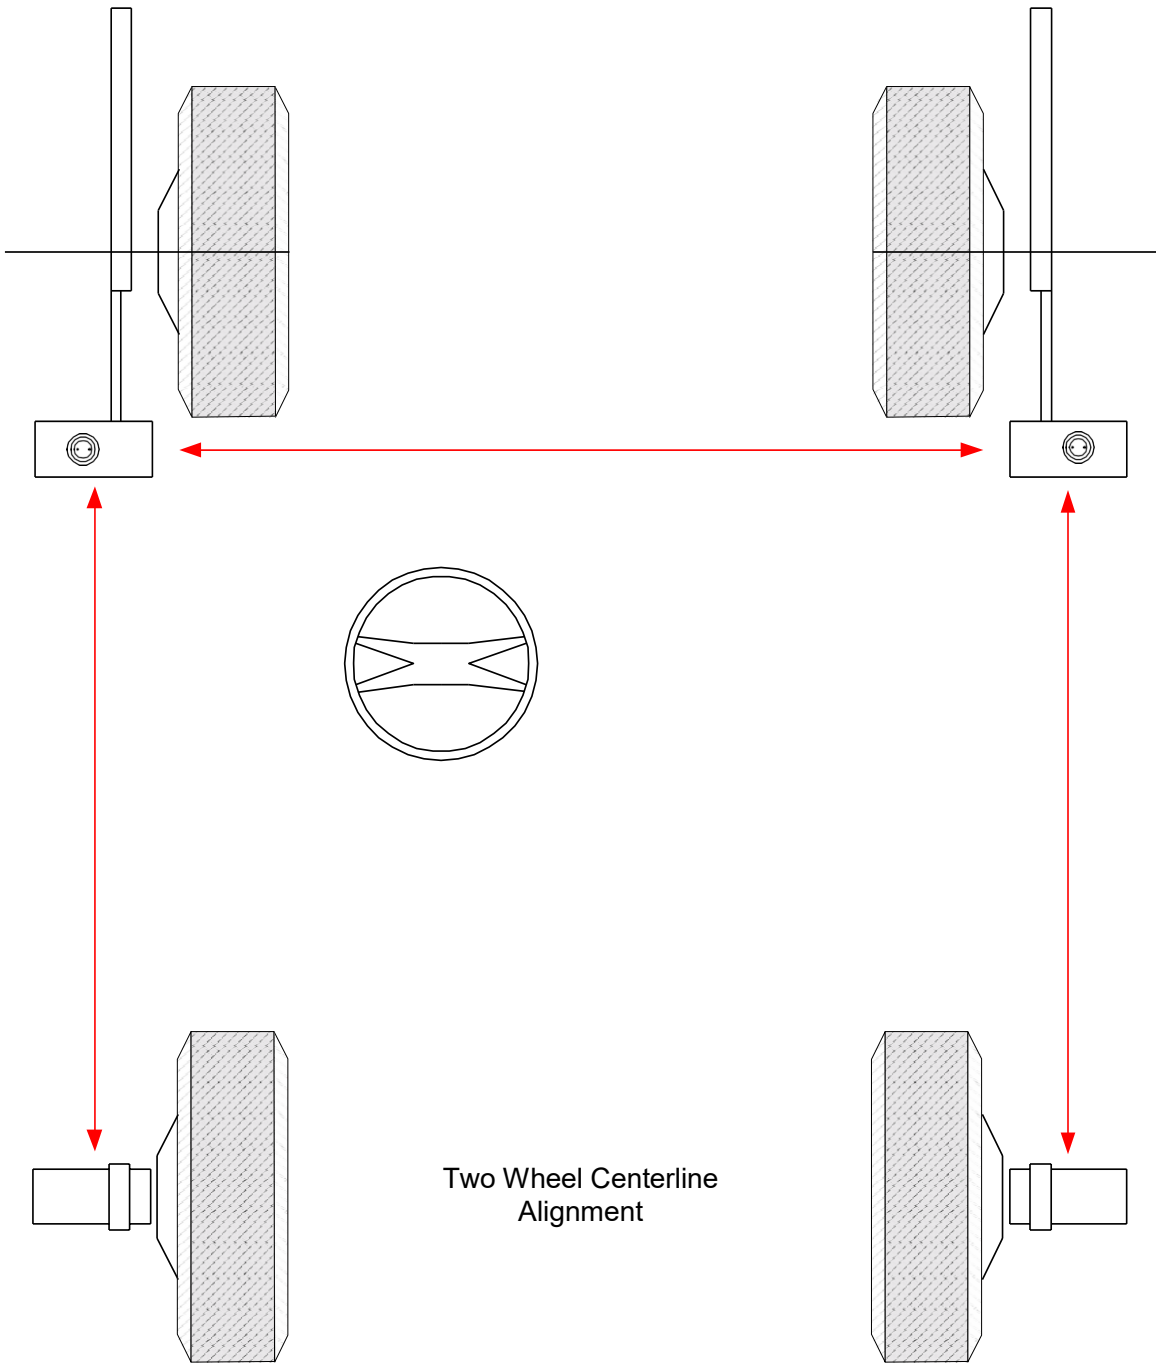

Figure 22
- b. However, if you are hitting a 2 on the right scale and 6 on the left scale, then further adjustment is required. In this case, add the numbers together (2+6=8) and then divide the total in half (8/2=4) to get your target number (4).
- d. After making adjustments to the tie rod, it is important that the cross-toe laser is still in the hole. (Fig. 22)